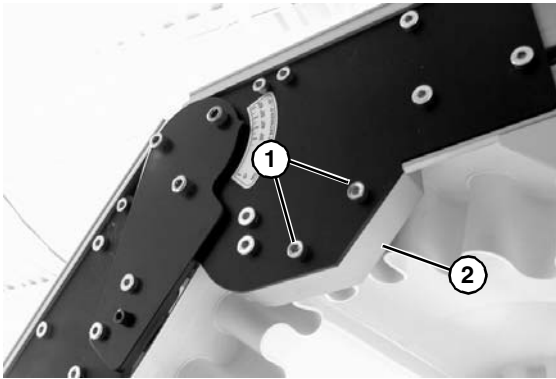

Figure 25
6. If equipped, remove screws (Figure 25, item 1) on both sides of knuckle and remove guard (Figure 25, item 2).